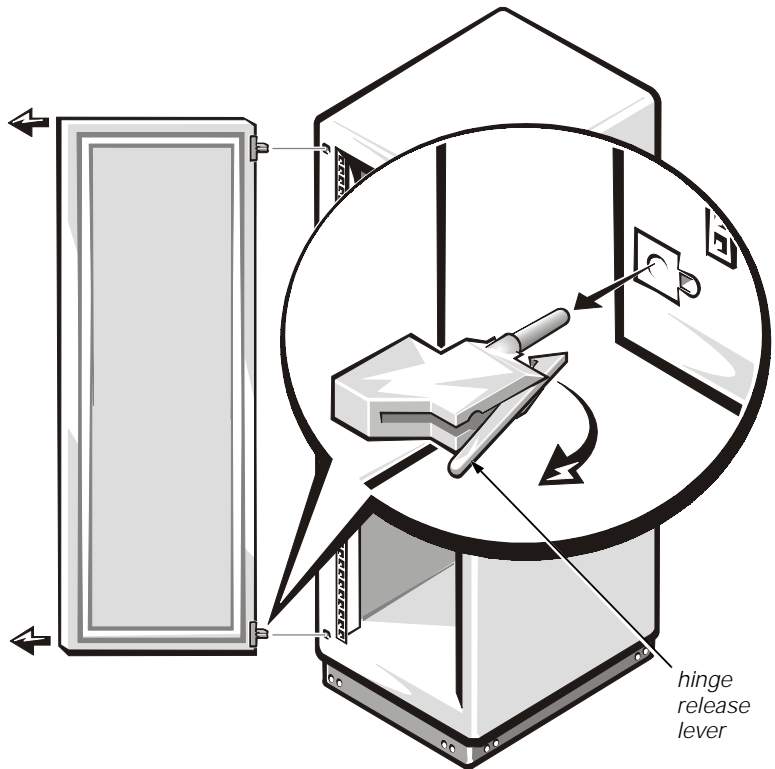

Figure 1-2. Removing the Rack Doors
2. Remove the front door as shown in Figure 1-2:
1. Lift the front door into position, and align the hinges with the holes in the rack as shown in Figure 1-2.